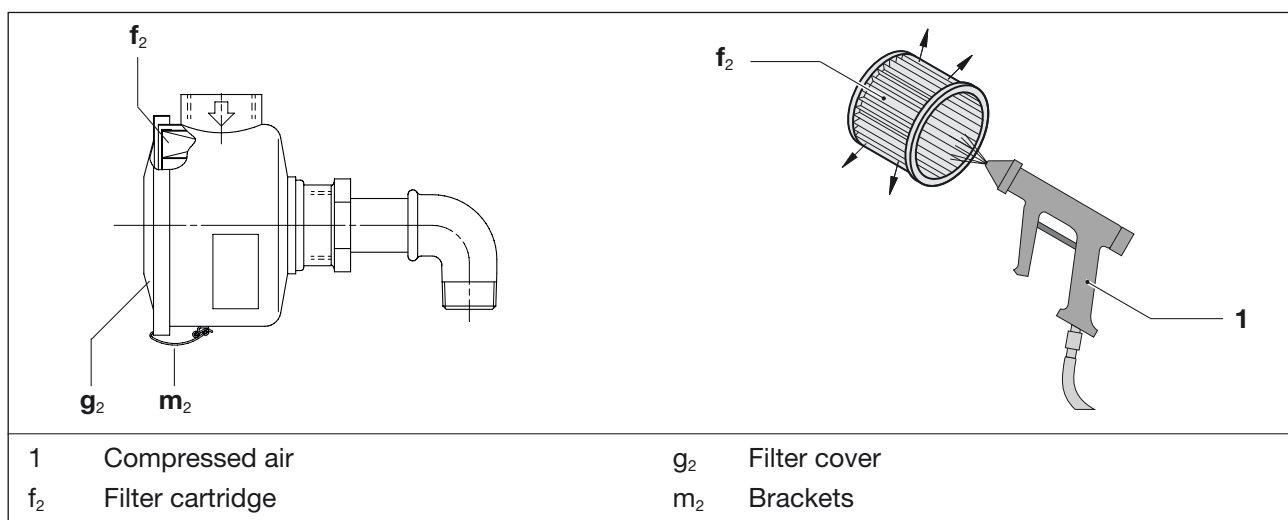

Fig. 7 Intake filter
- Release the brackets (Fig. 7/m₂) on the filter cover (Fig. 7/g₂).
- Remove the filter cartridge (Fig. 7/f₂) from the filter and clean or replace.
- Re-insert the filter cartridge in the filter and fasten the filter cover (Fig. 7/g₂) with the brackets (Fig. 7/m₂).